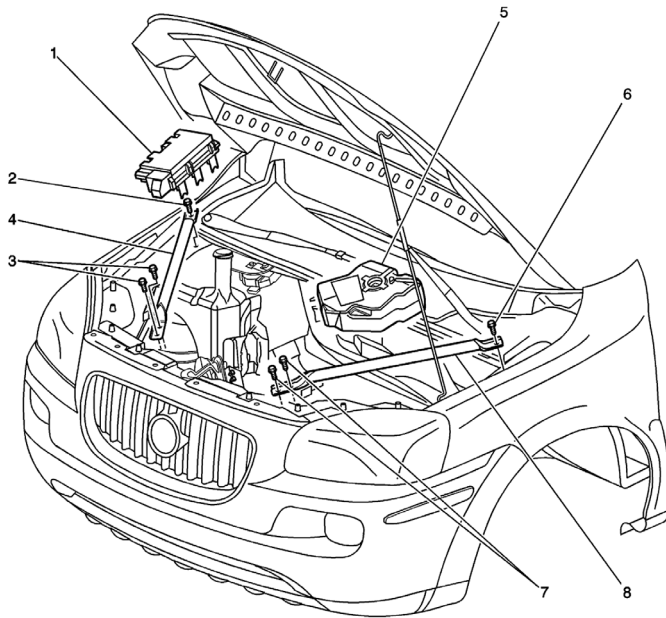

Fig. 2 Righthand front end sheet metal diagonal brace
7. Remove righthand front end sheet metal diagonal brace bolt at cowl panel (2), **Fig. 2**.
8. Remove righthand front end sheet metal diagonal brace bolts at radiator panel (3), **Fig. 2**.
7. Install righthand front end sheet metal diagonal brace, **Fig. 2**. **Torque** bolts to 35 ft. lbs.